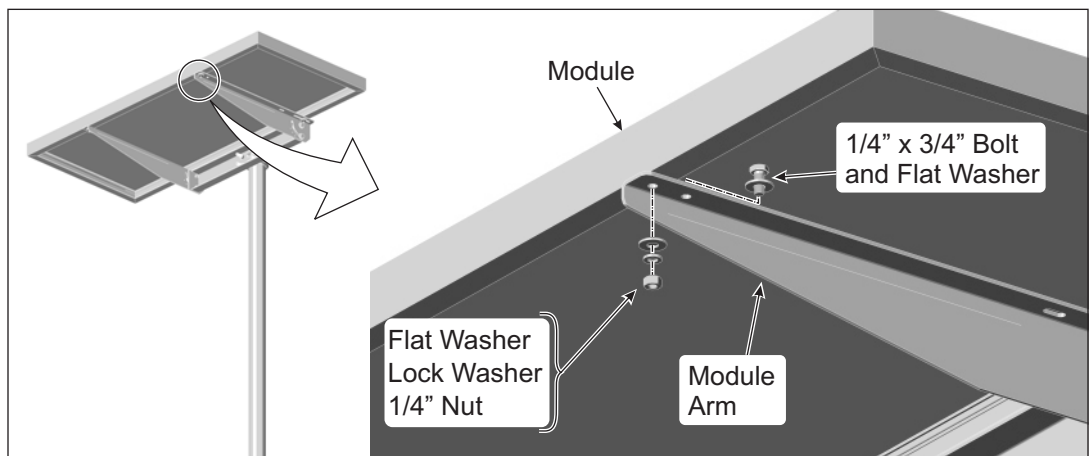

Figure 3-1: Attaching Module to Module Arm
- A. Place the Module on the Module Arms. While one person holds the Module in place, align the mounting holes and secure with 1/4" x 3/4" bolts and hardware. Each Module has four attachment points. **Torque to 6-8 ft.-lbs.** (See Figure 3-1)